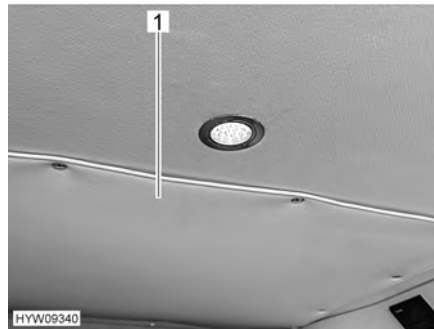
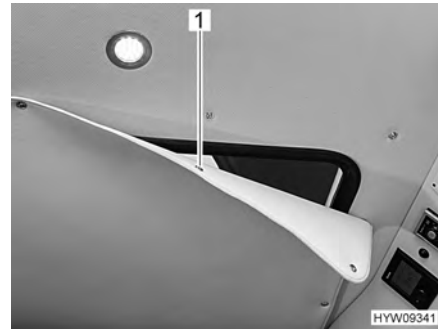

Fig. 30 Cover (closed)
Fig. 31 Cover (partially open)
- Remove the cover (Fig. 30,1) in the roof lining of the living area. In order to do this, release the snap fasteners (Fig. 31,1).
- Close the passage to the elevating roof with the cover (Fig. 30,1).